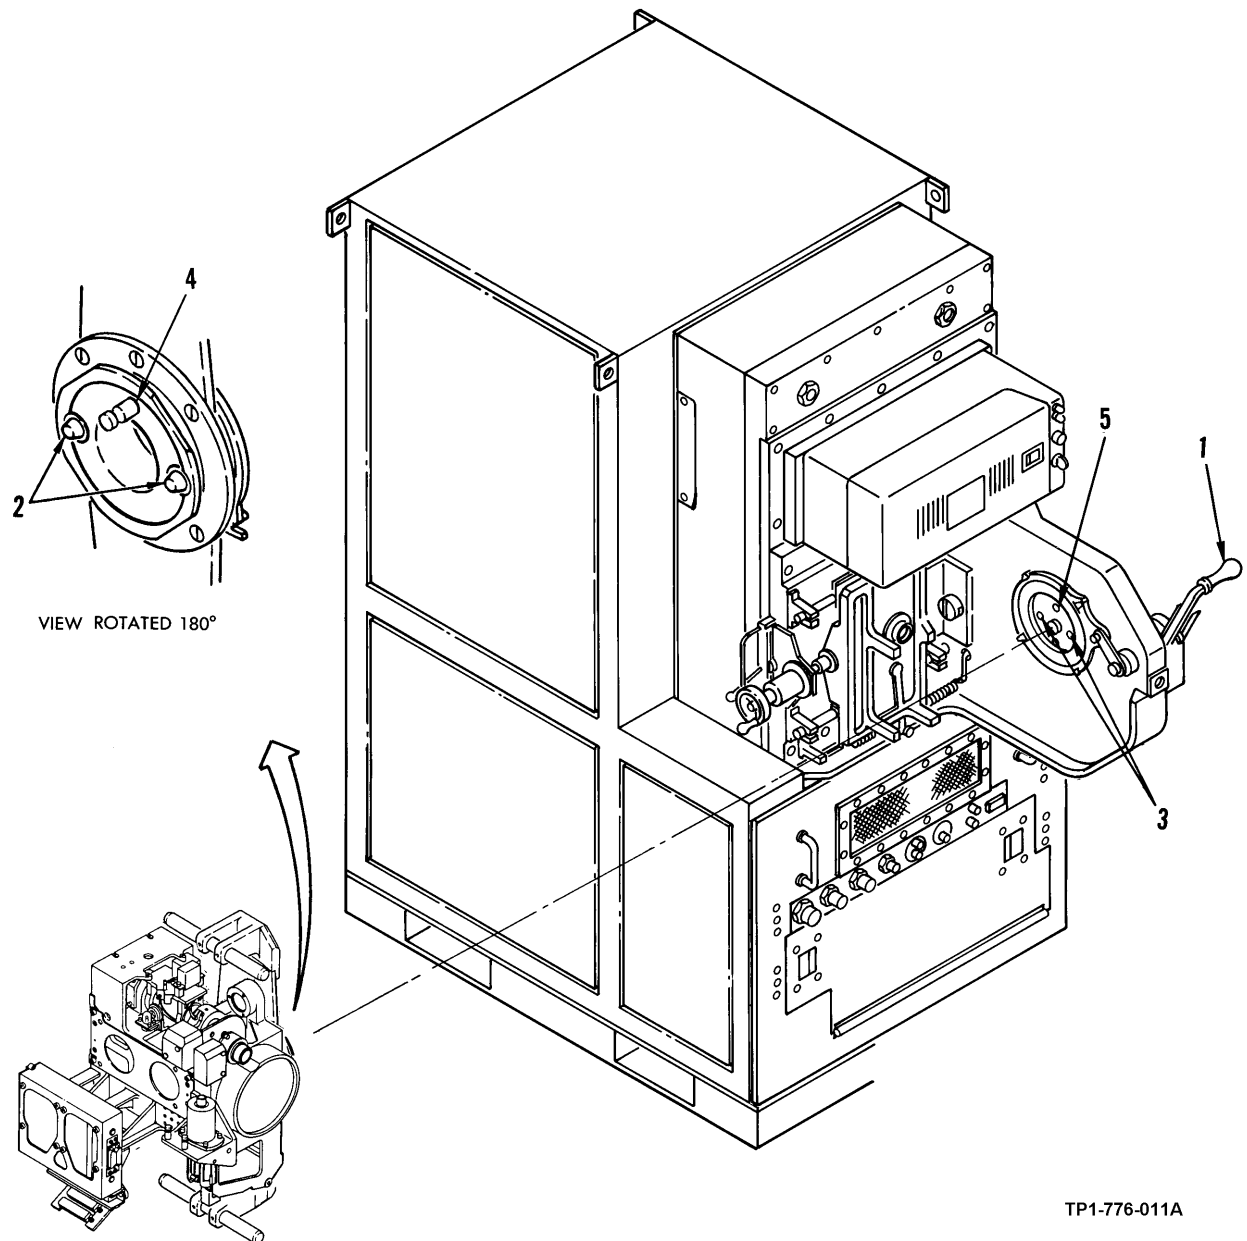

Figure 4-5. Mounting of Day Sensor Subassembly and Insert/Adapter to Sensor Mount Assembly
- (2) Push sensor mount handle (1, figure 4-5) to the unlock (away from operator) position.
- (3) Lift day sensor subassembly and insert/adapter handles of insert/ adapter and alive numbered insert/adapter guide pins (2) with corresponding numbered holes (3) on sensor mount assembly.
- (4) Ensure that guide pin (4) on insert/adapter is alined with hole (5) on sensor mount assembly.
- (5) Mount day sensor subassembly and insert/adapter to sensor mount assembly and pull sensor mount handle (1) to the lock (toward operator) position. Ensure that day sensor subassembly and insert/adapter are firmly locked in place before releasing insert/adapter handles.